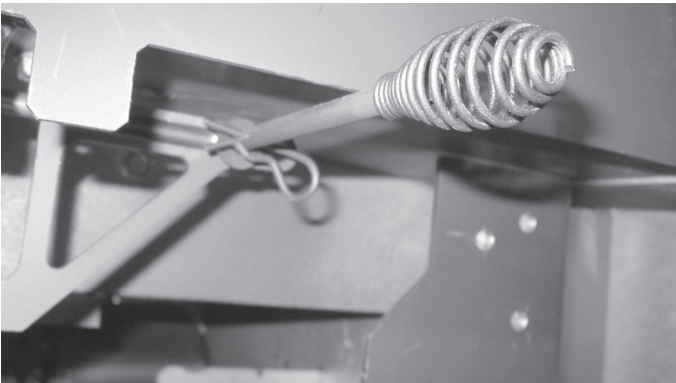

Figure 4.25 Reinstalling Hairpin Clip and Washer
11. Install the washer and hairpin clip back on the rod. See Figure 4.25.